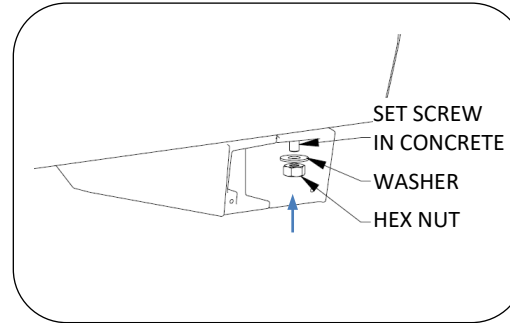

Fig. 14
16. Install nut and washer (set aside in step 11) on bottom of concrete, up from bottom at the support, see Fig. 14. The set screw located in the concrete at the top of the section does not receive a washer/nut. Do not overtighten.